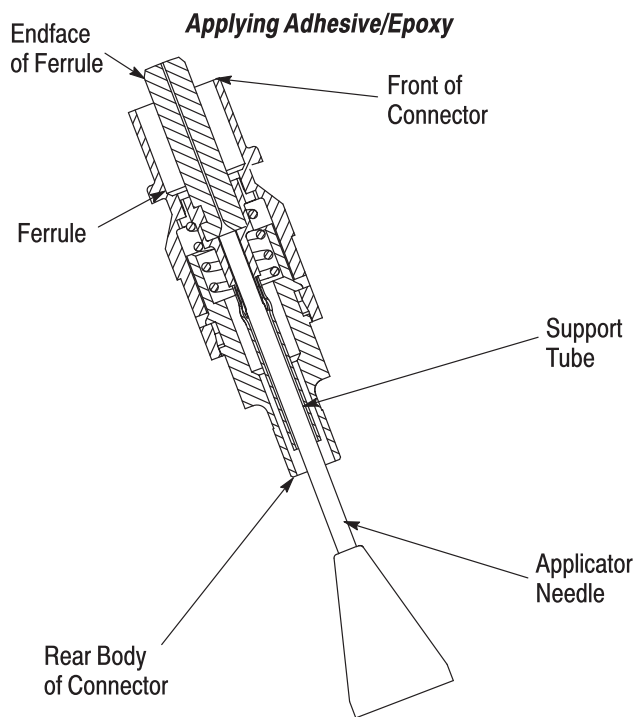

Figure 6
2. Hold the connector subassembly in an upright position. Insert the needle tip into the rear body and support tube until the needle tip touches the bottom of the ferrule. See Figure 6.